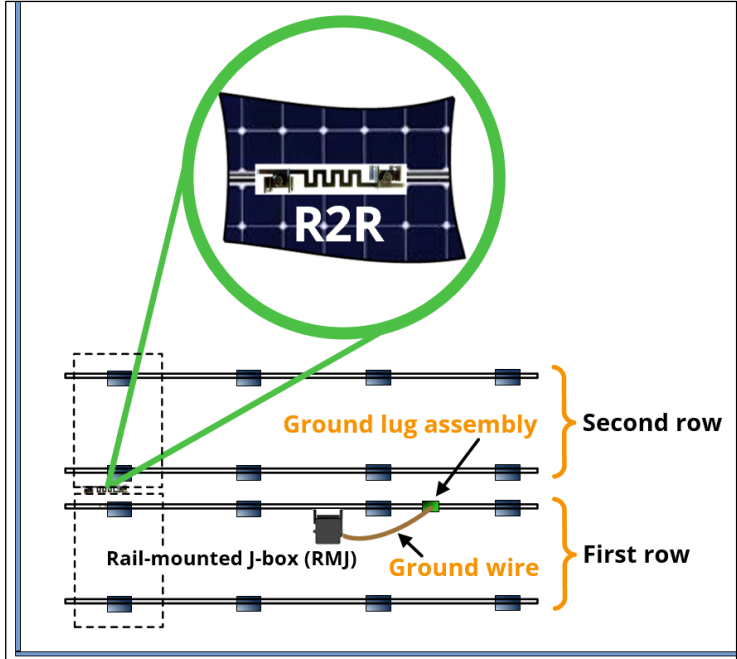

Fig. 10
- one ground wire, one ground lug assembly, and an R2R grounding clip (Fig. 10 and Section 5.6.1)
You must still connect one ground lug to one of the rails in the first row, and run the copper ground wire to it so that its electrical bond will transfer to the other rows through the R2R clip (refer to Fig. 10).